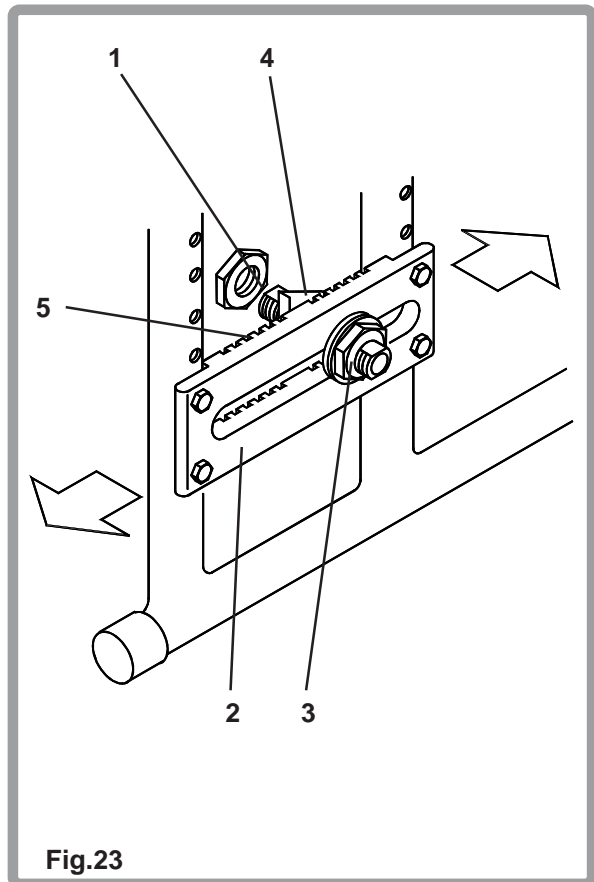

Fig.23
The centre of gravity (Fig. 23) is adjusted by moving the axle sleeve (1) backwards or forwards on the indexed axle plate (2). To move the axle sleeve under the outer 28mm A/F retaining nut (3) sufficiently to allow the locking washer (4) and the axle sleeve assembly to slide in the axle plate, find the desired index slot (5), and tighten the retaining nuts, to 81Nm torque.